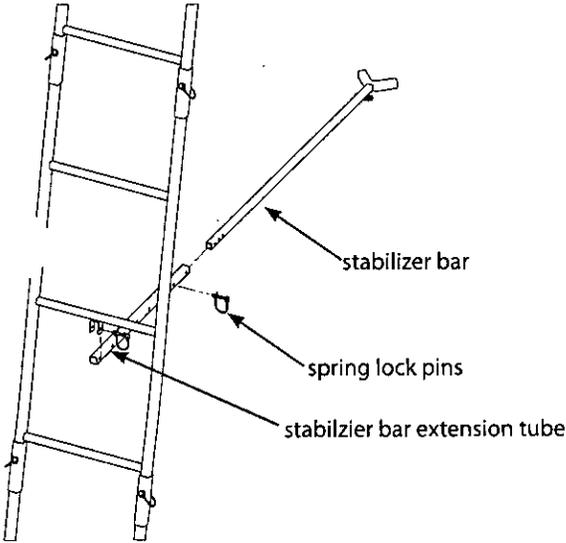

Figure 14
1. Attach the stabilizer bar extension tube (1ML23) to the second ladder section mounting bracket using (1) provided spring lock pin. SEE FIGURE 14.
b. Slide the stabilizer bar (L17) into the extension tube and attach the two pieces together using (1) provided spring lock pin. Spring lock pin must go through both the extension tube and stabilizer bar at appropriate hole to achieve desired distance from tree. Adjustment in length may be needed when ladder is uprighted later in instructions. SEE FIGURE 14.